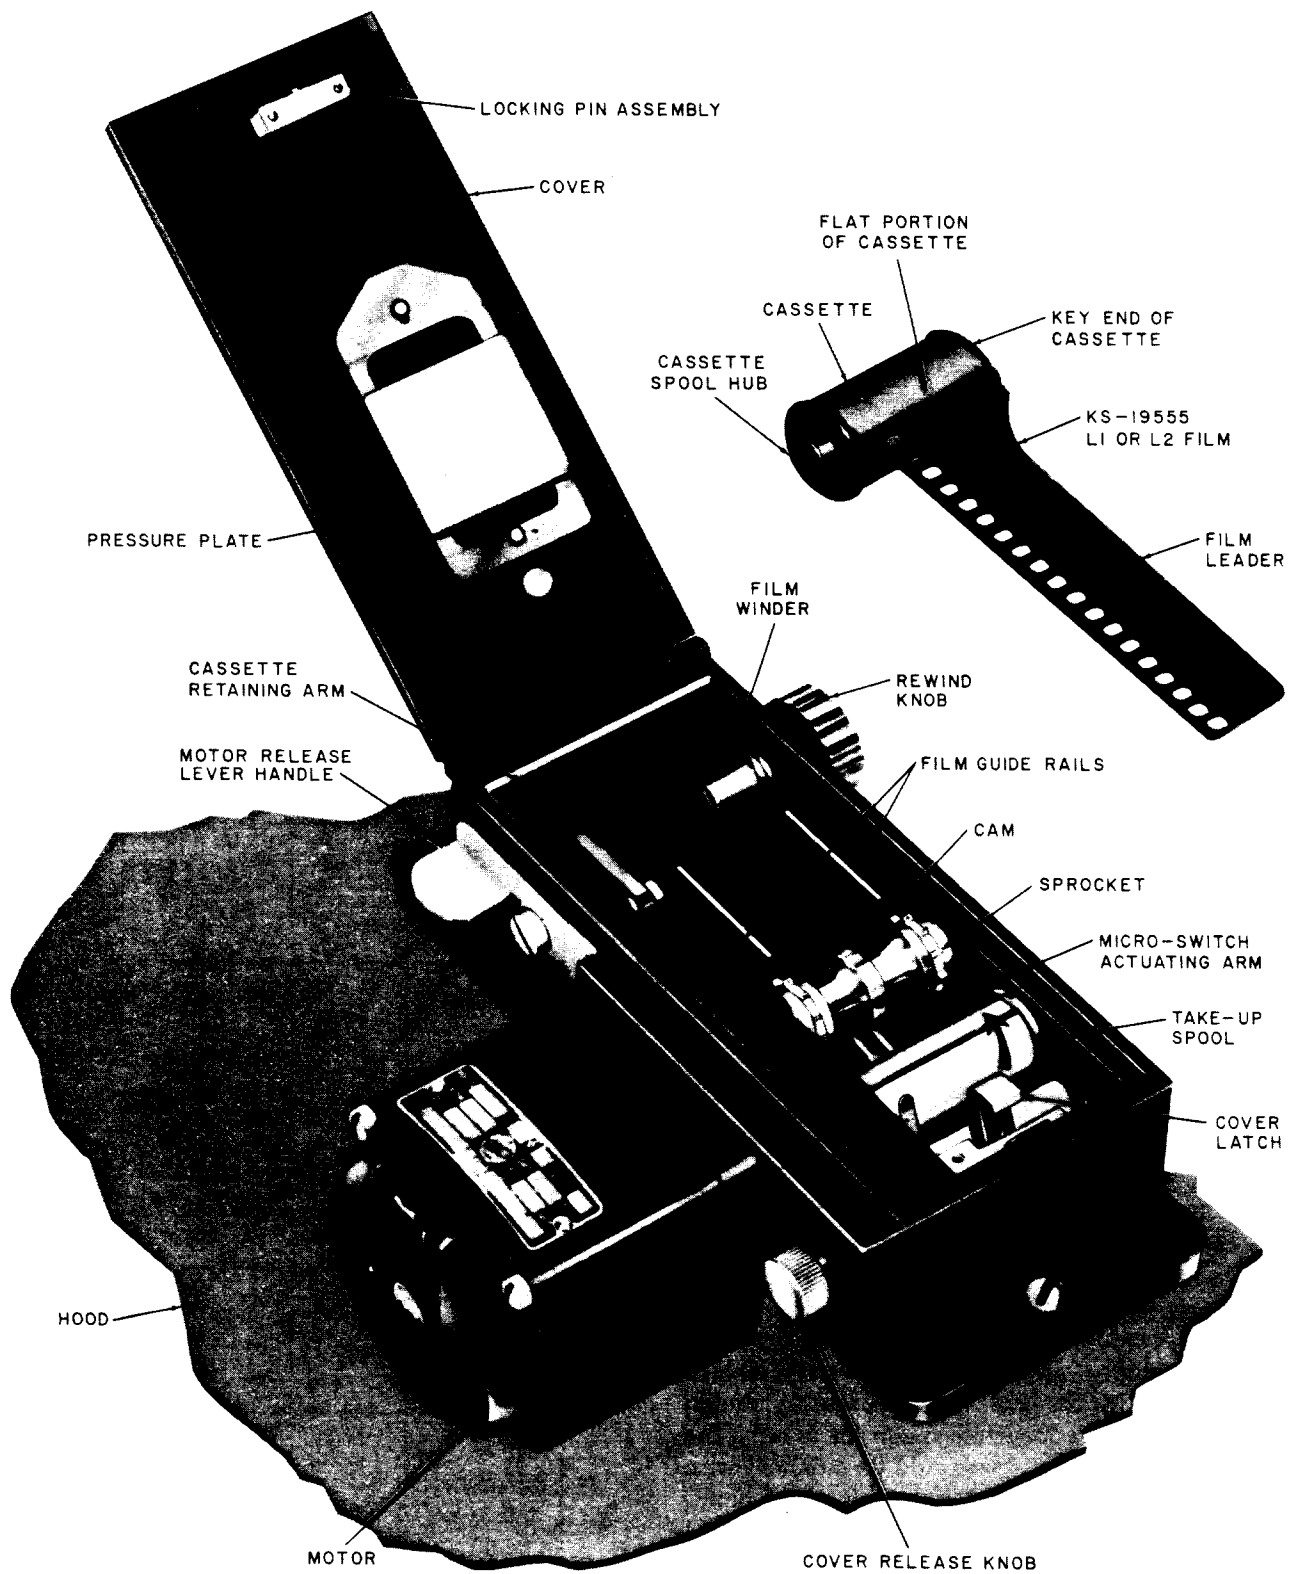

Fig. 4—KS-16007 Camera and KS-19555 Film
4.11 Turn the cover release knob on the KS-16007 camera (see Fig. 4) in a clockwise direction, open the cover, and lay it back on the hood.
Loading the Camera—Fig. 4
If the exposed film is to be forwarded for processing, retain the container. Straighten the film leader which extends from the cassette. Orient the cassette as shown in Fig. 4, raise the cassette retaining arm, and place the cassette in the camera so the key end of the cassette spool engages the slot in the film winder, turning the rewind knob as required to facilitate the operation. Lower the cassette retaining arm.
(b) Lift the motor release lever handle and rotate the take-up spool as required to bring the slot in the spool to the top as shown in Fig. 4. Insert the film leader into the slot to the full depth of the slot (about 3/8 inch) and position the leader so the perforated edge is against the adjacent flange of the take-up spool.
(c) Lift the motor release lever handle and manually rotate the take-up spool in a counterclockwise direction, viewed from the motor side of the camera, until the spool has made one complete revolution. ♦Refer to Fig. 4 and check for correct rotation as indicated by the arrow on the take-up spool.♦ This draws the film leader down between the sprocket and the take-up spool, under the spool, and back up to the top of the spool. Release the motor release lever handle, and make sure the perforated edge of the leader is still against the adjacent flange of the spool.
5.02 Remove the cassette with exposed film from the camera, proceeding as follows. Referring to Fig. 4, lift the motor release lever handle and turn the rewind knob in a clockwise direction as viewed from its own side of the camera. If the film is to be processed in a day-load tank as covered in 6.04 through 6.06, continue to turn the rewind knob only until a slight tug is felt as the film leader pulls free from the take-up spool. Do not continue to turn the knob after the tug is felt since this would wind the film leader into the cassette. If the film is to be processed by a commercial photo-finisher, continue to turn the knob until it begins to turn freely indicating that the exposed film has been rewound into the cassette.